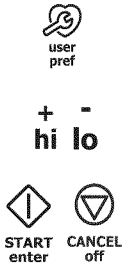

Figure 15: Audio level adjust on (L) or off (R)
The factory audio setting is preset to level 5 (Figure 15). The volume can be adjusted for lower levels from 5 through 1, or it can be turned off for a silent control setting (Figure 15).
1. Press **user pref** until **AUD 5** appears (Figure 15).